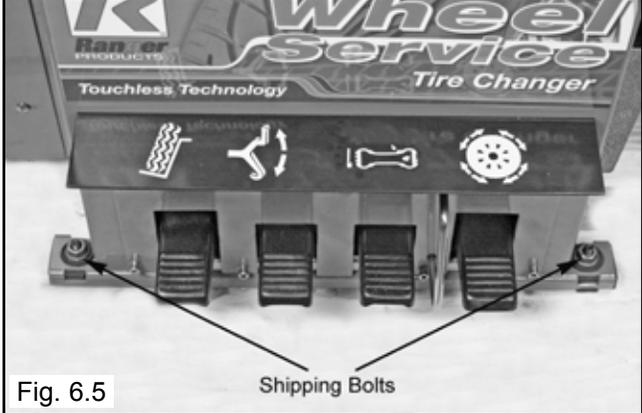

Fig. 6.4
2. Carefully cut plastic wrapping off. Carefully remove loose accessories and accessories box from pallet. (See Fig. 6.4)